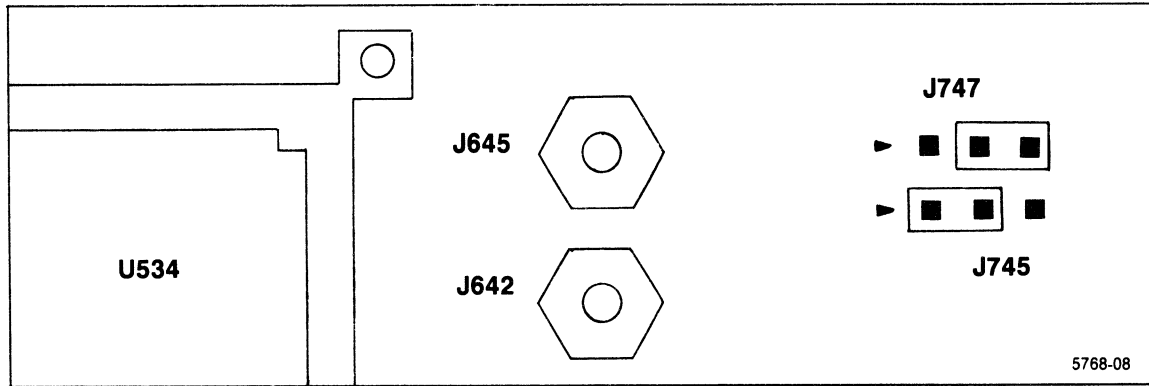

Figure B-8. Multiple 91HS8 position for jumper 745.
6. For multiple 91HS8s, you must position jumper 745 in each 91HS8 cabinet as shown in Figure B-8.